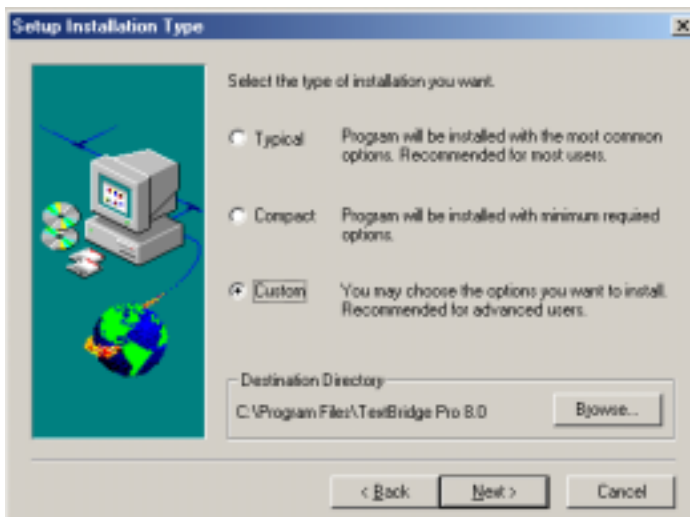

Figure 6: selecting the options desired
6. Select the 'Custom' and click on 'Next' to select the desired options. See figure 6.